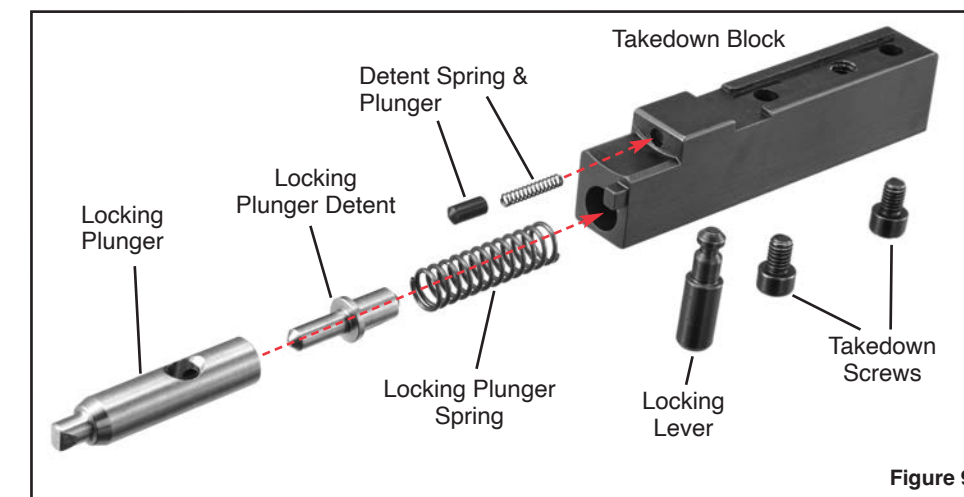

Figure 9
5. Insert the non-directional locking plunger spring into the takedown block. (See Figure 15.) Refer to Figure 9 page 3, for correct part names and order of parts installation.